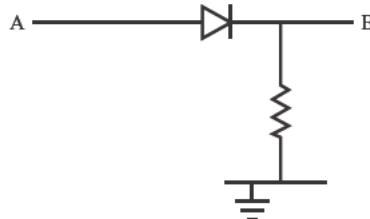
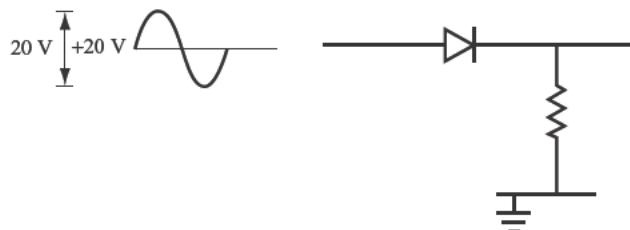

FIGURE 11.1
FIGURE 11.2
Assume that you apply + 20 volts DC at point A of the circuit, as shown in Figure 11.1.
- 2 Figure 11.2 shows the circuit in Figure 11.1 with a 20 V_{pp} AC input signal centered at + 20 volts DC.